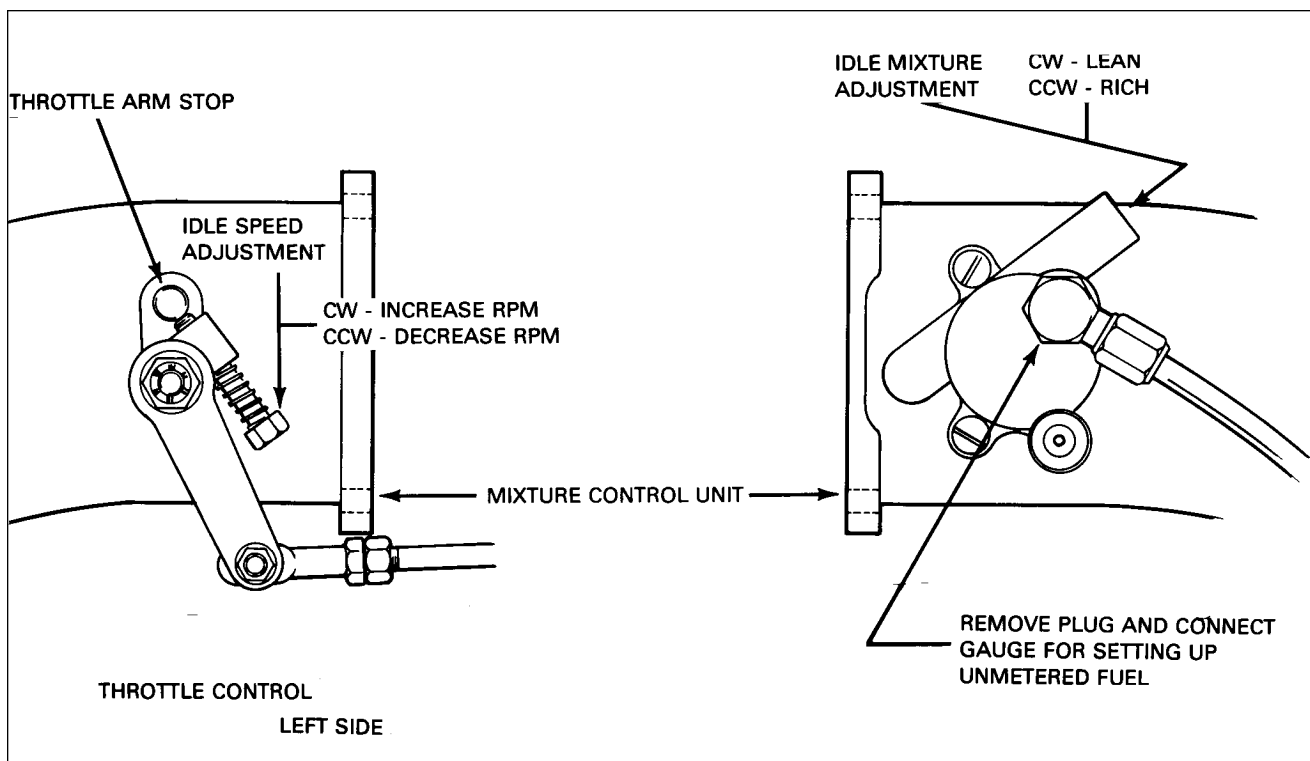

Figure 76-3. Idle Speed and Mixture Adjustment Points
- A. Remove the cap from the tee fitting on the right side of the throttle body. (Refer to Figure 76-3.)
- A. Back off the idle speed adjusting screw two turns. (Refer to Figure 76-3.)
5. Check and Adjustment of Idle Mixture: (Refer to Figure 76-3.)
6. Check and Adjustment of Idle Speed: (Refer to Figure 76-3.)